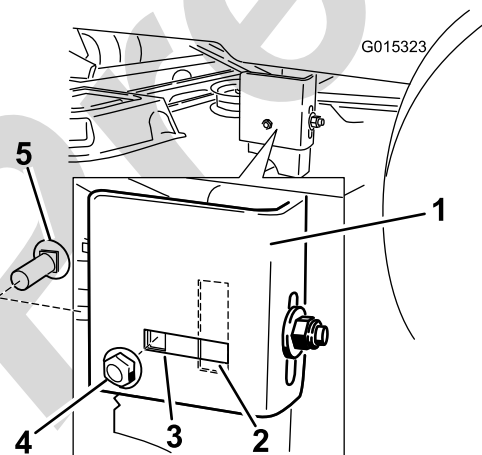

Figure 51
7. Move to the left side of the machine. Remove the side carriage bolt and locking nut from the fixed position and install it into the rear, slotted position (Figure 51). Leave the lock nut slightly loose.
8. Loosen the rear locking nut on the hanger bracket just enough to allow the hanger to be adjusted (Figure 51).